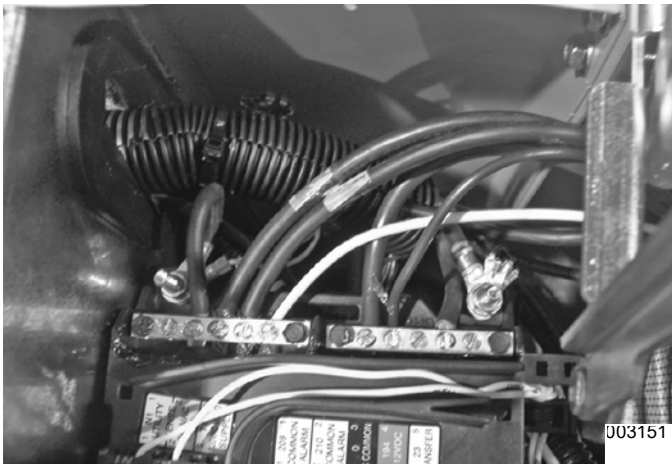

Figure 4-5.
4. **Remove Stator Wires:** See Figure 4-5. Remove all wires from the main circuit breaker, remove the neutral and ground wires from landing lugs.